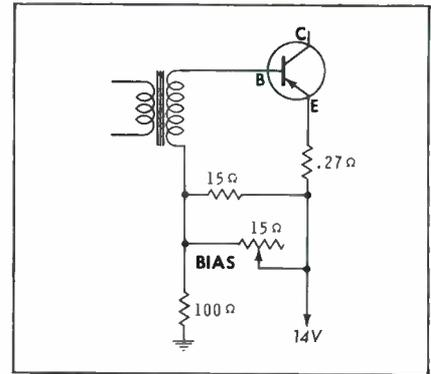

Fig. 6. Bias control is sometimes in base-emitter leg of the voltage divider.
The precaution of setting up minimum base-emitter bias before installing a new transistor is an extremely important step in servicing any circuit containing a variable bias control. It matters not whether the circuit conforms to the commonly-used arrangement shown in Fig. 2, or to the alternate hook-up of Fig. 6, nor will it matter if the manufacturers eventually use NPN transistors instead of the PNP types now universally used.
maximum-resistance setting of the control does not establish minimum bias in all circuits! In Fig. 6, where the control is in the emitter-to-base leg of the voltage divider, a minimum-resistance setting is required. This can again be proved by Ohm's law. At minimum resistance, the base is shorted to the emitter, and there is no bias. However, at maximum resistance, a 7.5-ohm resistance between base and emitter is in series with a 100-ohm resistance, for a total of 107.5 ohms. The current (E/R) is $14/107.5$, or .13 amps, and the base-emitter voltage (IR) is